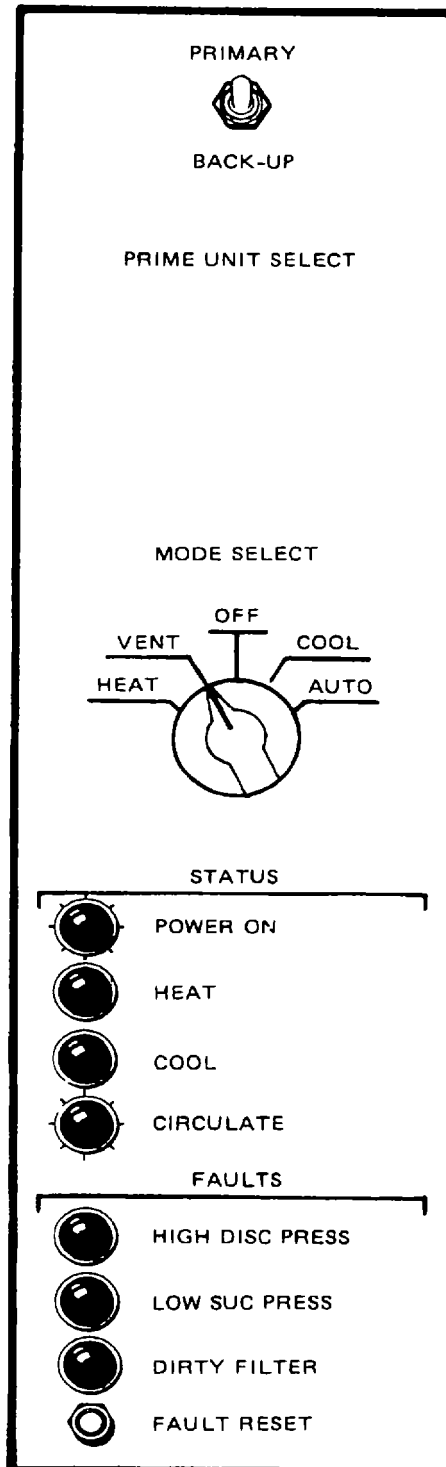

Figure 2-3. Ventilate Mode
**2.8. OPFRATION IN VFNT MODE** (see fig. 2-3)